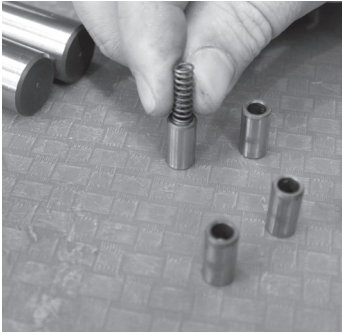

Figure 1-D
- Place springs into the alignment pins. *Figure 1-D*